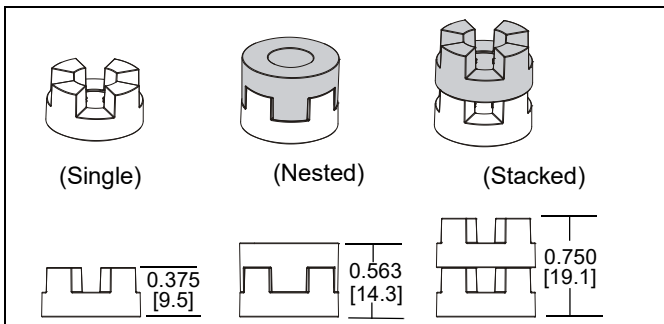

Figure 10
**IMPORTANT ! :** The M8 screws do **NOT** require a washer. Use the universal washer (MB) only with M4, M5, and M6 screws.
**NOTE:** The nesting spacers (MA) may be used separately, or put two together in different configurations to create different size spacers. (See Figure 10)